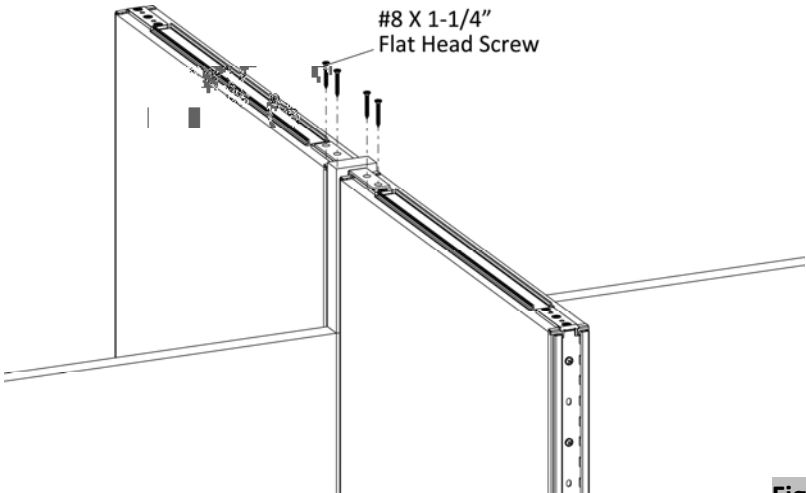

Figure 9
- 18. Drive four #8 x 1-1/4" Flat Head Screws through the holes in gallery panel top bracket into the panels, (Figure 9).